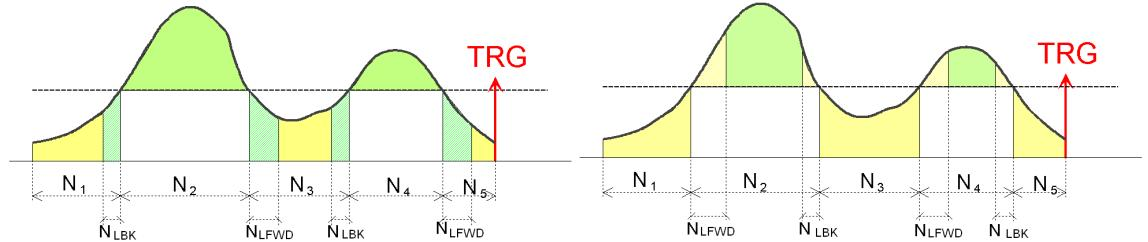

Fig. 7.9: Example of non-overlapping N_{LBK} and N_{LFWD} in case of positive logic (left) and negative logic (right).
1. In the simplest case N_{LBK} and N_{LFWD} do not overlap. Fig. 7.9 reports the case of positive logic on the left, and negative logic on the right. The green areas correspond to the over threshold samples, while the yellow ones correspond to the under threshold samples: